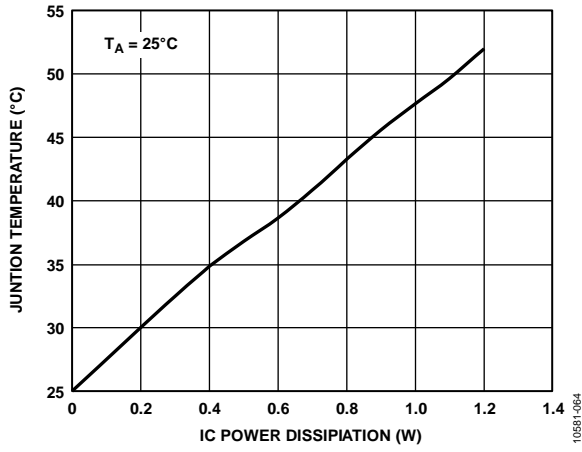

Figure 64. Junction Temperature vs. Power Dissipation Based on ADP2441-EVALZ
When designing an application for a particular ambient temperature range, calculate the expected ADP2441 power dissipation (PD) due to the conduction, switching, and transition losses using Equation 28, Equation 29, and Equation 30, and then estimate the temperature rise using Equation 31 and Equation 32. Improved thermal performance can be achieved by implementing good board layout. For example, on the ADP2441 evaluation board (ADP2441-EVALZ), the measured  $\theta_{JA}$  is <30°/W. Thermal performance of the ADP2441 evaluation board is shown in the Figure 64 and Figure 65.